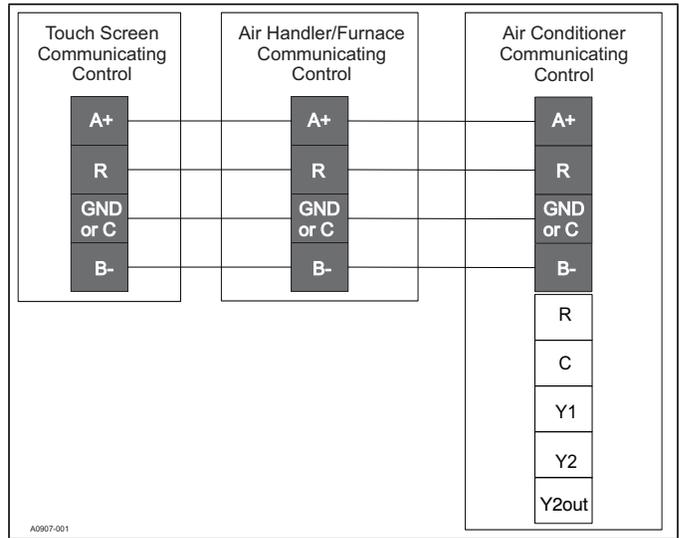

FIGURE 14: Communicating AC with Communicating Air Handler or Furnace
3. Strip the four wires and make the necessary thermostat connections noted in the thermostat wiring diagrams. Refer to Figures 14 & 15.